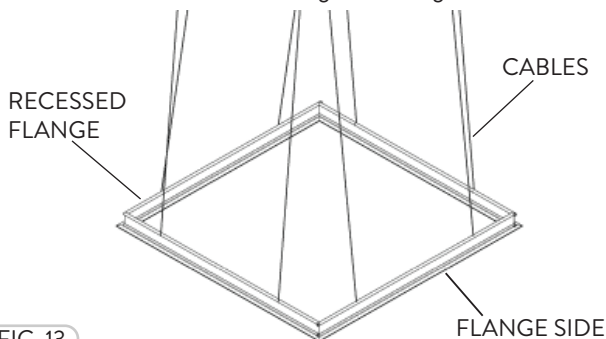

FIG. 13
- 2 Notch out the ceiling drywall surface. Insert the preassembled Recessed Flange frame flush to the ceiling leaving the Flanged Side underneath the ceiling. If the drywall ceiling is thin install the Cables to support the frame and the FPNB/2 fixture. Cables are not included with the Recessed Flange frame (Fig. 13).